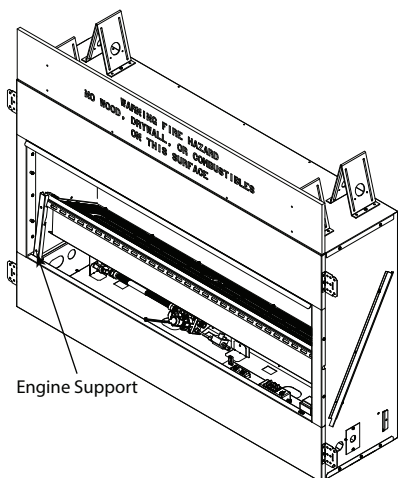

Figure 3
5. Lift the front of the burner assembly and support with engine supports so you can access the controls. See Figure 3.